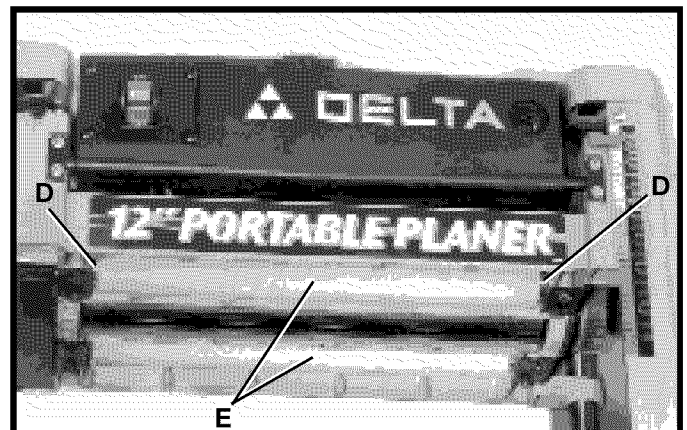

Fig. 30
4. Lay the planer on its back and squirt oil on the feed roller bushings (D) Fig. 30, at each end of the feed rolls (E).